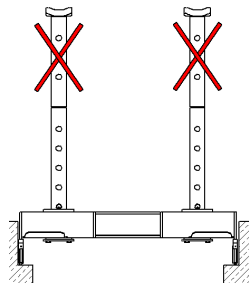

Fig. 20
- *Brace pipes and spacers must not be stacked. Tipping hazard! → Fig. 20;*